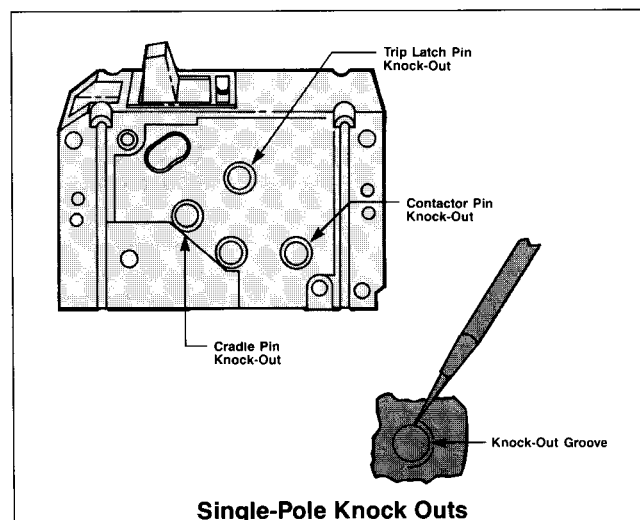

Figure 2
- Place the circuit breaker on a flat surface with the marked knock-outs facing you as shown in Figure 2.